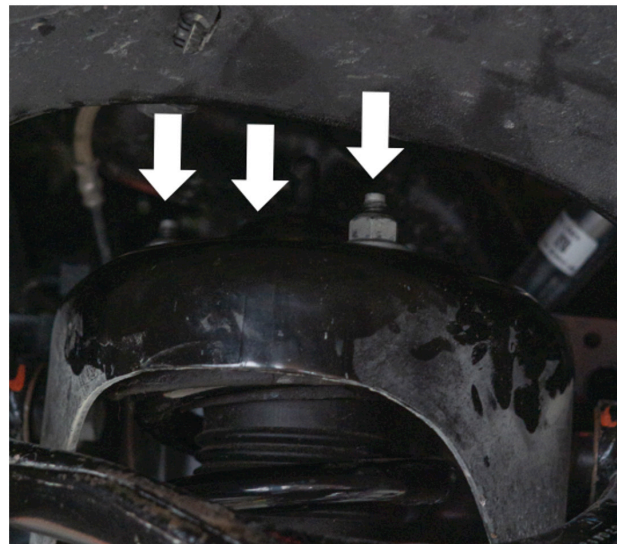

Fig. 5: Remove the three top hat nuts. **DO NOT** remove the center nut that holds the shock assembly together.
5. Remove the three top hat nuts that secure the stock shock assembly to the vehicle (Fig. 5). **DO NOT** remove the center nut that holds the shock assembly together. Removal of the center nut will release the spring from the shock assembly and may result in **SERIOUS INJURY** or **DEATH!**